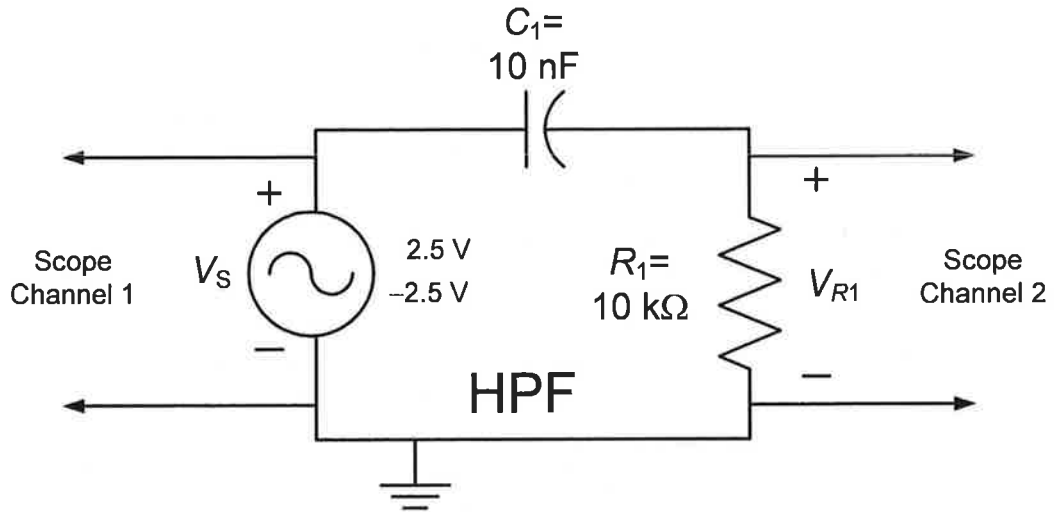

Figure 7. First-order HPF RC circuit excited by a sinusoidal source.
**Lab Experiment 2.b:** Construct the circuit shown in Fig. 7. Observe both voltages  $V_S(t)$  and  $V_{R1}(t)$  on the scope simultaneously for 500 Hz, 5 kHz, and 50